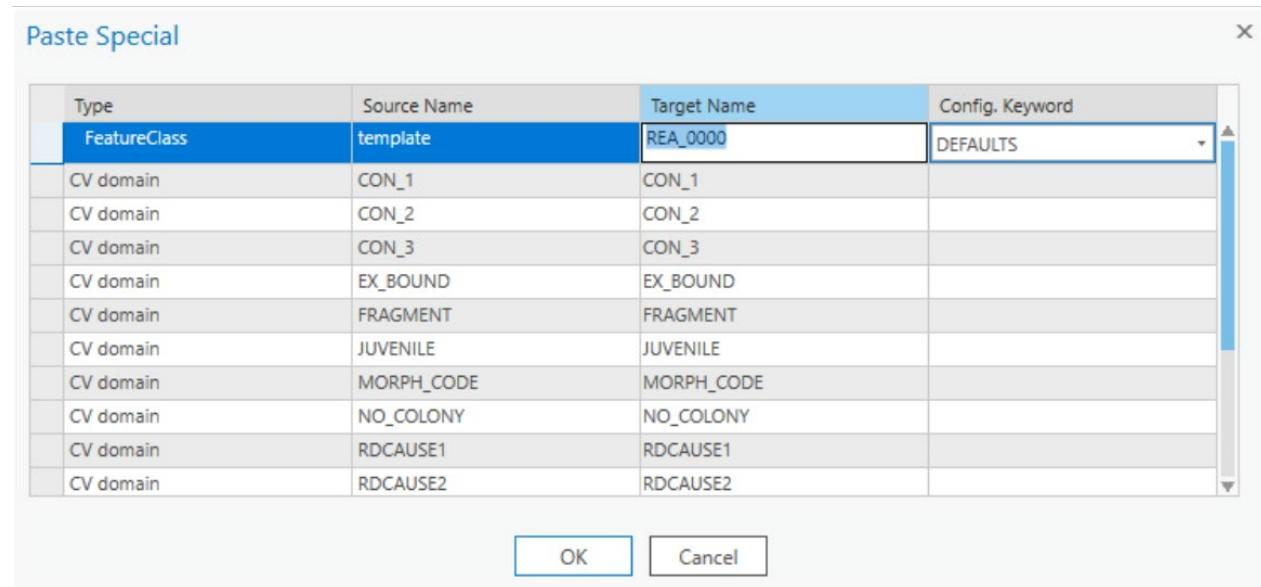

Figure 6.7 Screenshot of Paste Special window in ArcGIS Pro when creating a new GDB from a template.
4. A screen titled ‘Paste Special’ will pop up. The only box that is necessary to edit is in the first cell in red under Target Name—change this to the project site name (e.g. year_site#_lastname) → OK (Figure 6.7).